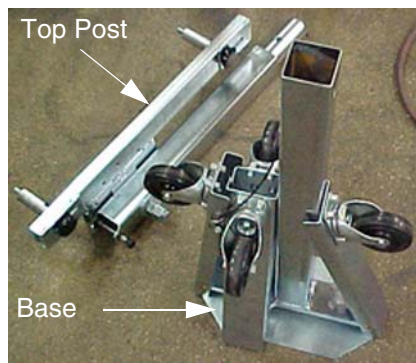
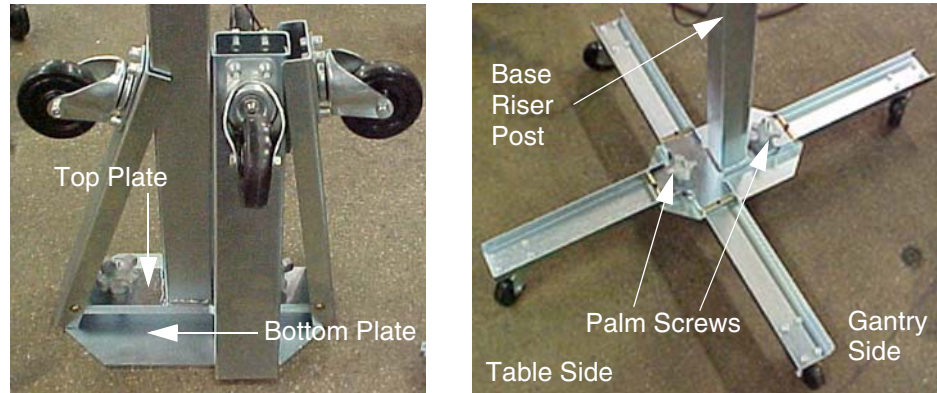

Figure A-5 Front Cover Dolly in Storage Mode
Figure A-6 Front Cover Dolly Base Assembly
- 1.) Arrange Dolly sections for assembly. The base and post can be assembled only one way. Refer to Figure A-5 and Figure A-6.
- The base uses two (2) palm screws to clamp the four (4) legs in the open or usage mode.
Note: Lifting the base by the riser post while leaving the castors on the floor will ease palm screw tightening. Reference Figure A-6.